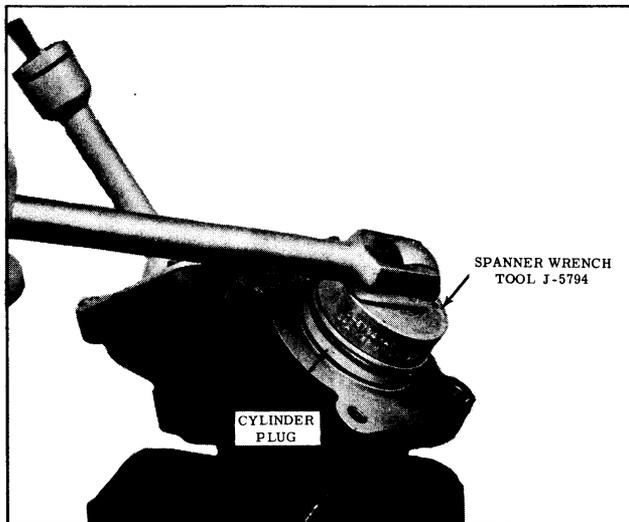

Fig. 7-23 Removing Cylinder Plug
1. Clamp master cylinder casting in vise with cylinder plug up. Remove cylinder plug using special spanner wrench Tool J-5794. (See Fig. 7-23)